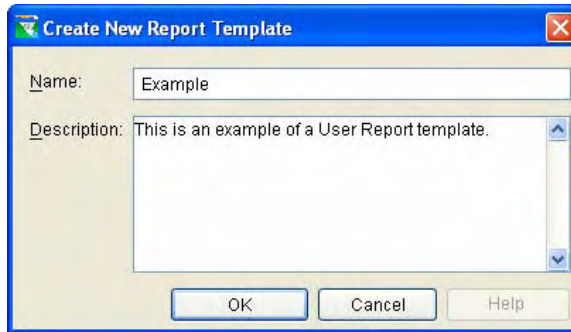

Figure 14.40 Create a New Report Template
2. Create a new report template by selecting **New** from the **Report** menu. The **Create a New Report Template** tool  (located in the upper left hand corner of the editor) can also be used for creating a new report. The **Create New Report Template** dialog box will appear (Figure 14.40) where you will give your report a **Name** and **Description** and select **OK**.